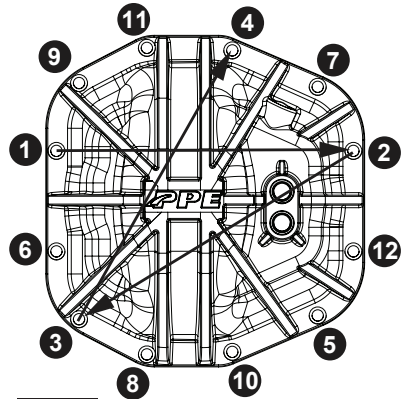
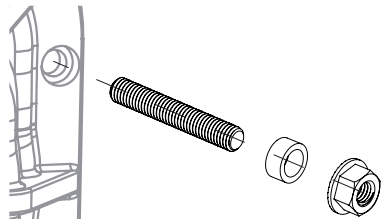

Fig.2
Fig.3
7. Install PPE Diff Cover on the housing. Hold in place by threading one M8 Screw (D) on either side of the flange. **(Fig.2 - 6, 12)** Finger tight for now.
8. **Bronco owners:** Install provided Studs sets (E), Spacers (F) and Nuts (C) in both locations of the removed stock studs. **(Fig.3)** Finger tight for now.
9. Install remaining M8 Cap Screws (D). Finger tight for now.
10. Tighten in the crossing pattern as shown. Final torque to 20-25 lb ft. **(Fig.2)**